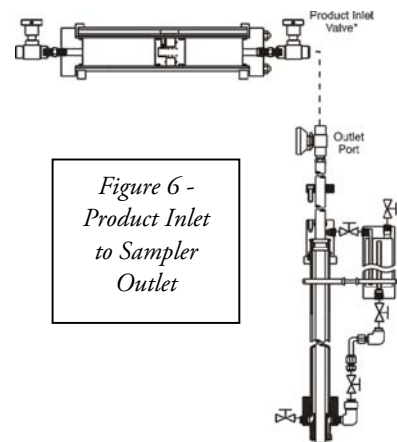

Figure 6 -
2. After pre-charging the cylinder above pipeline pressure (see Section 2.2), connect the product inlet valve of the cylinder to the sampler outlet port (see Figure 6).